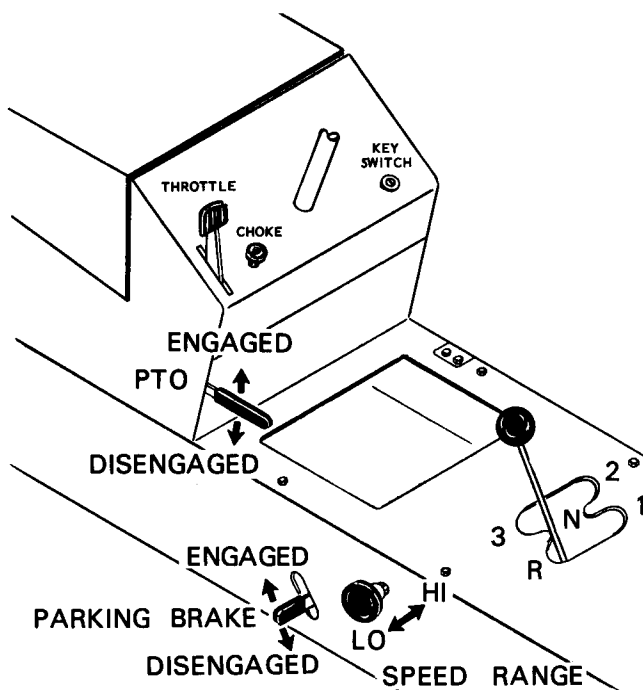
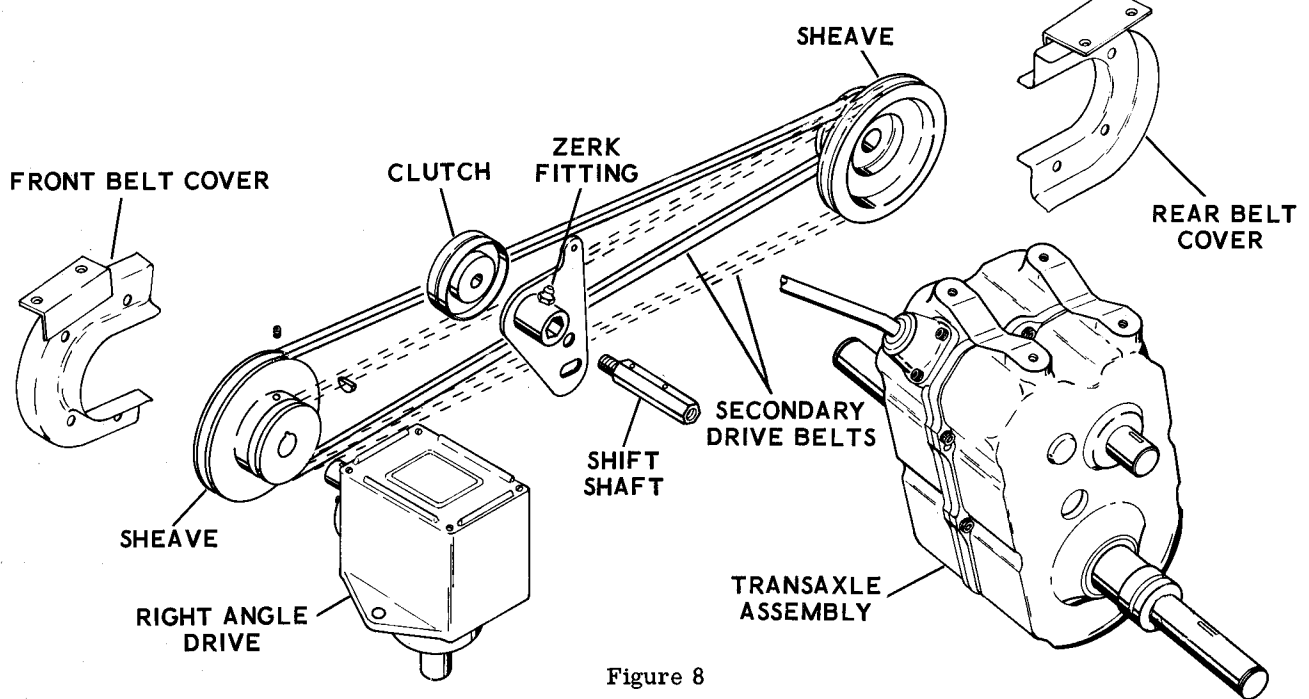

Figure 5
Figure 8
e. Grease the shift shaft every 25 hours of operation or once each season. See figure 8. Before greasing shaft, move the speed range control to the HI range. See figure 5.
a. Disengage the PTO clutch by placing PTO clutch lever in the DOWN position. See figure 5.
a. Shifting the transmission into any one of the three forward or one reverse speeds. See figure 5.
b. Moving the speed range control into one of two speed ranges: HI or LO. See figure 5.
Any of the tractor attachments utilizing the power take off are engaged and disengaged by moving the PTO lever up or down. The PTO lever is located on the left side under the tractor dash. See figure 5. Move the lever up to engage the PTO. Move the lever down to disengage the PTO.
### 4. SECONDARY DRIVE BELTS (Figure 8)